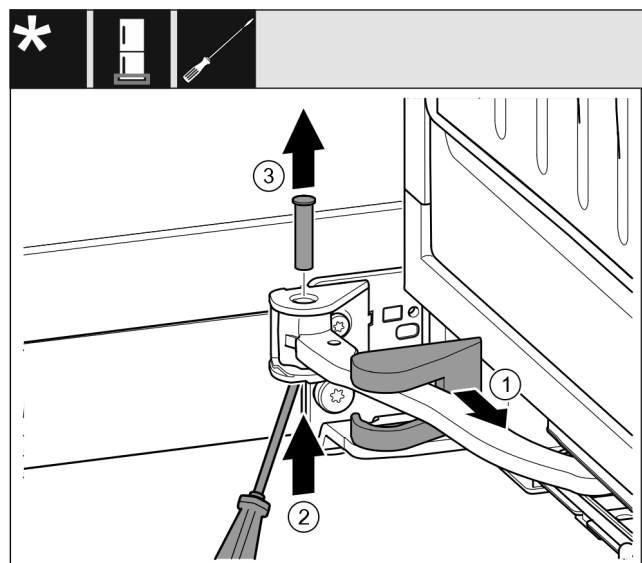

Fig. 15
- ▶ Remove the swap bearing block cover Fig. 15 (1) and slide along the joint.
- ▶ Use a screwdriver to lift the bolt Fig. 15 (2) from below.
- ▶ Pull out the bolt Fig. 15 (3) from above.